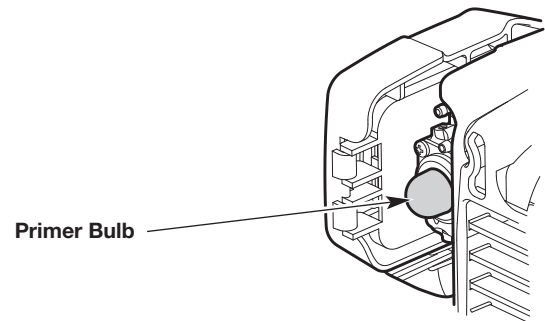

Fig. 9
1. Slowly press and release the primer bulb **10 times** (Fig. 9).